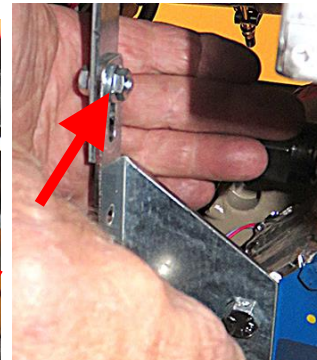

Figure 43
41. Use a 7/16" wrench to remove the nut and bolt from the filter pump shipping bracket (see Figure 43).